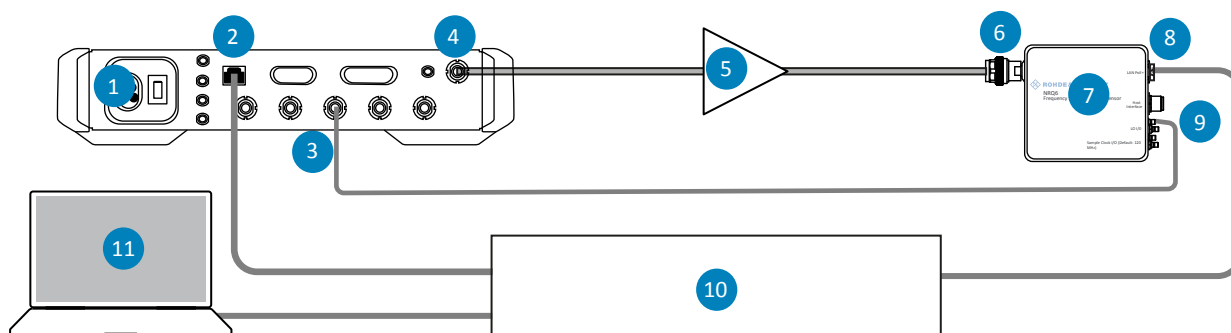

Figure 8-4: Cabling
1. Connect the instruments as shown in Figure 8-4.